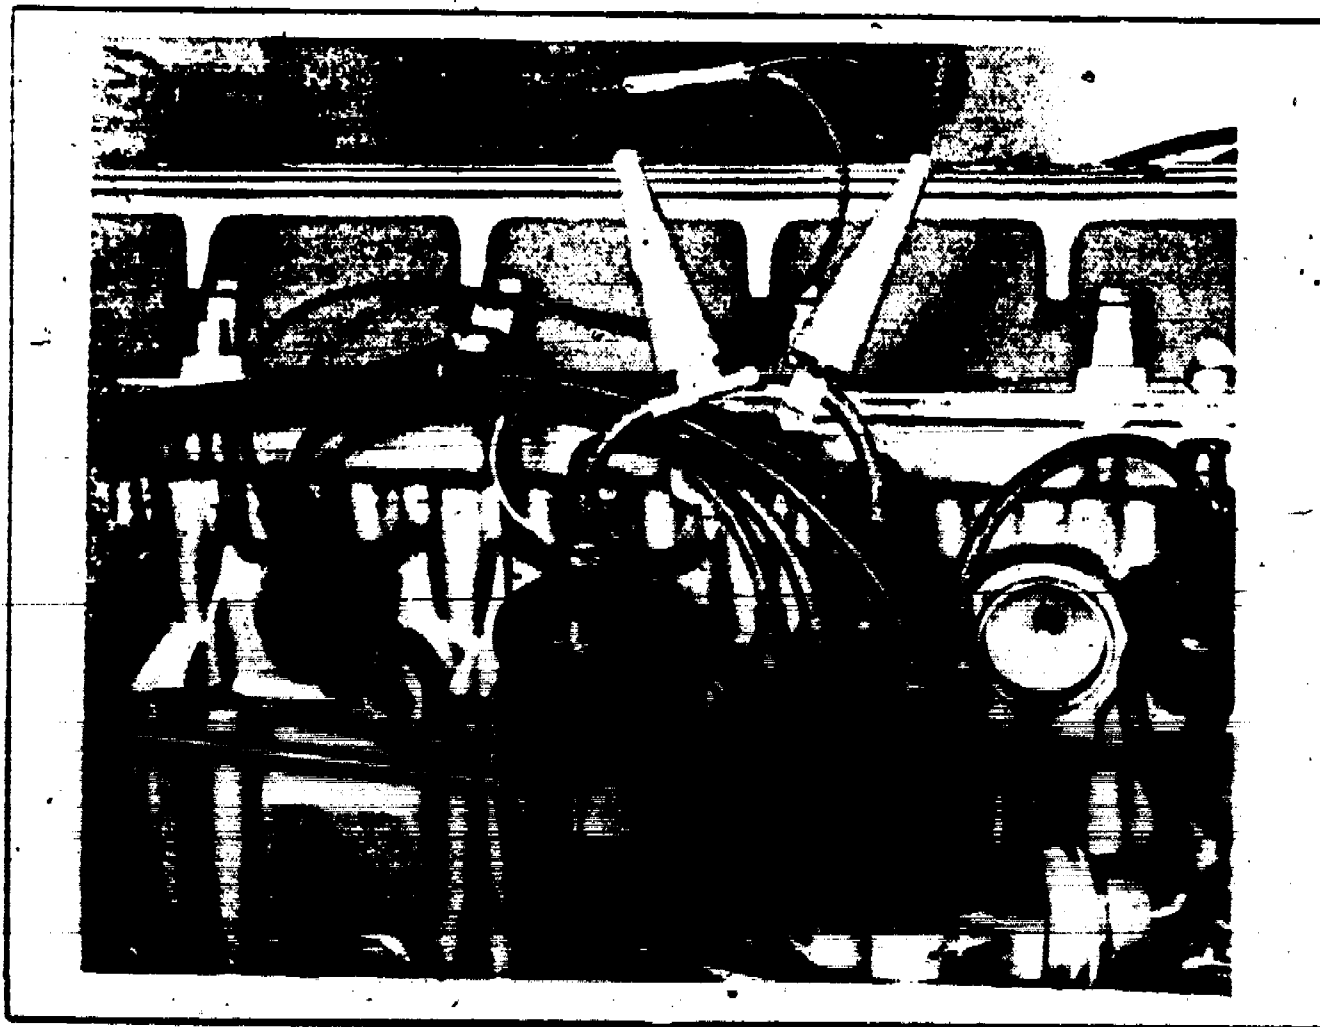

Figure 4-3. Superimposed Wyeform Connections
c. Connect trigger pick-up lead (4, figure 1-1) to center of coil high tension lead. (Refer to figure 4-3).